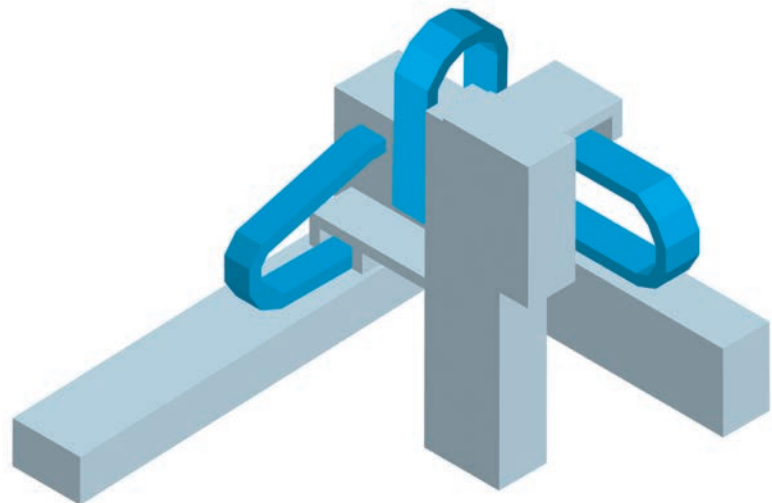

Figure 1: Cartesian robot
- Cartesian robots (Figure 1) are easiest to control, since they move linearly along the x, y and z axes. They're typically used for applying sealants, simple assembly and pick-and-place.